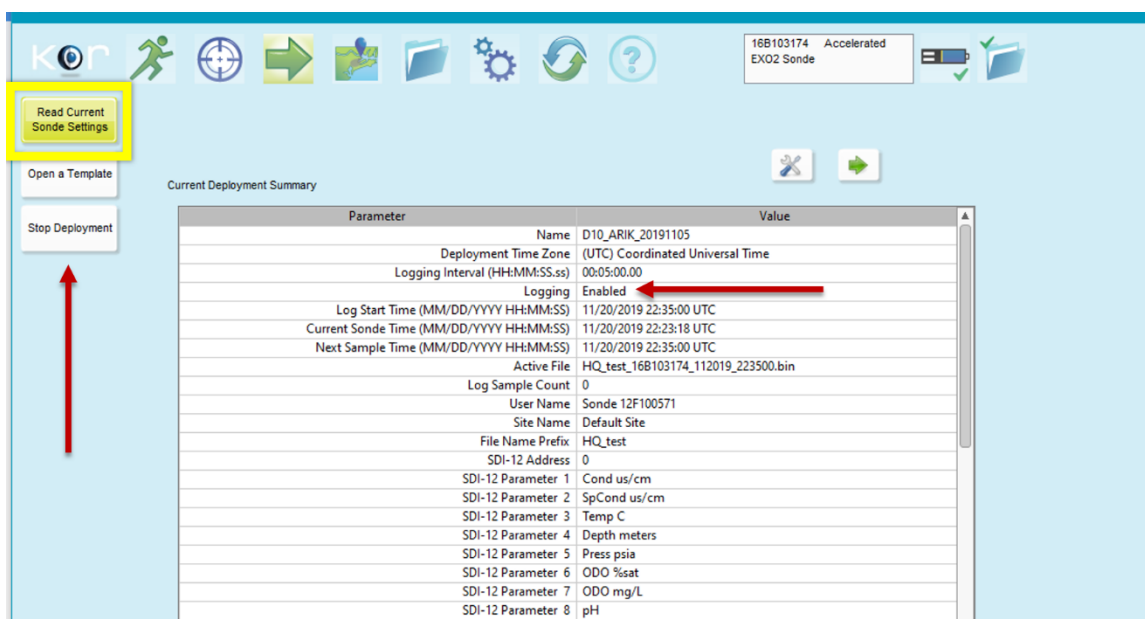

Figure 9. Read Current Sonde Settings to Verify Logging is Enabled
- After the settings load, confirm that logging is enabled by clicking on **Read Current Sonde Settings**. Logging is enabled if the “**Stop Deployment**” button displays and Logging “**Enabled**” is indicated in the Current Deployment Summary table. (**Figure 9**).